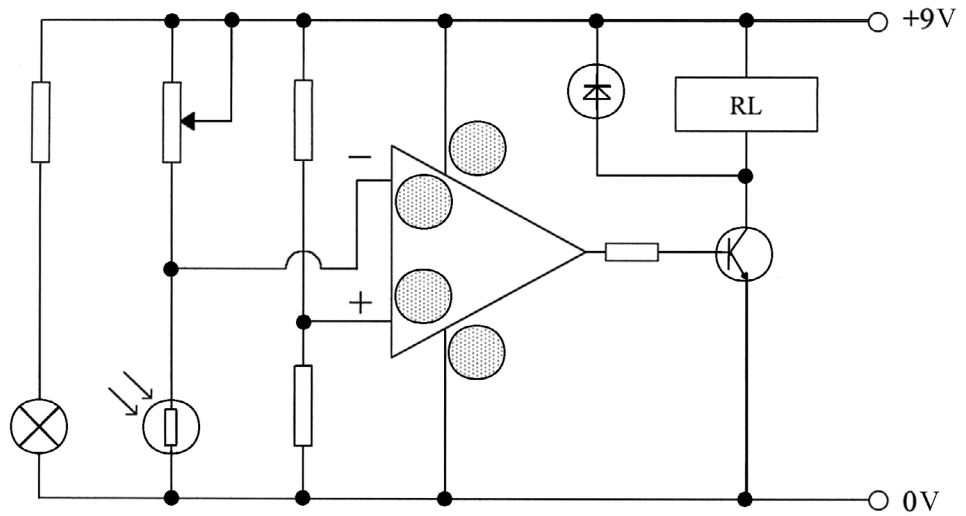

Figure 8
- (b) The signal from the LDR (Light Dependent Resistor) is amplified using an Operational Amplifier. The circuit used is shown in **Figure 8**.